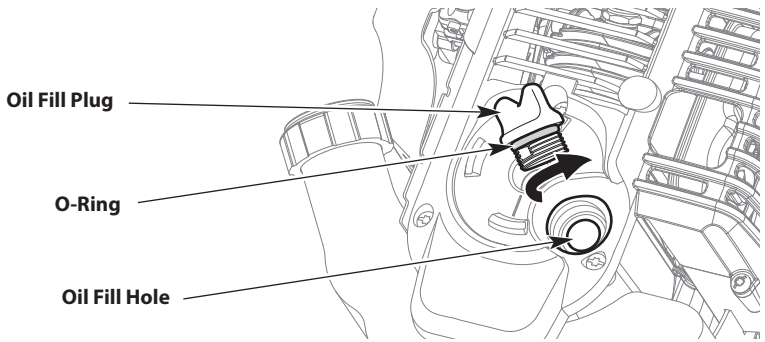

Fig. 12
2. Unscrew the oil fill plug (Fig. 12).
3. Pour 3.04 fluid oz. (90 ml) of oil into the oil fill hole (Fig. 12).
5. Make sure the O-ring is in place on the oil fill plug (Fig. 12).